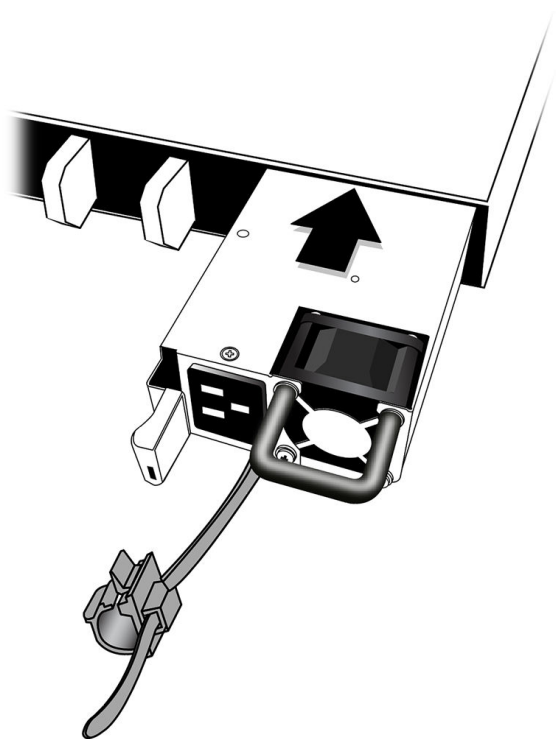

Figure 29: Installing an 800 W AC Power Supply
6. Carefully slide the power supply all the way into the power supply bay (see Figure 29).